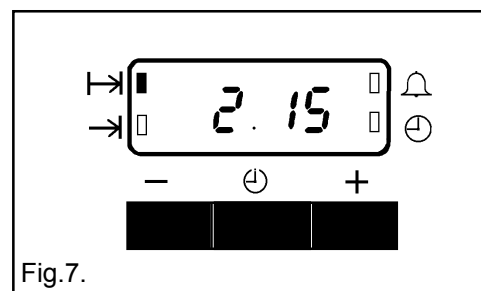

Fig.7.
- iii) To set the length of cooking time, press the Selector control button () until the 'Cook Time' indicator neon is illuminated (). Press the increase control (+) until the required length of cooking time is displayed, e.g. 2 hrs 15 mins as Fig. 7. If necessary depress the decrease control (-) until the correct time interval is achieved.